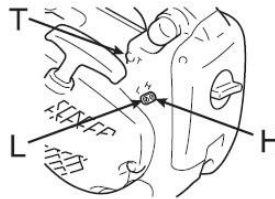

Fig. 22
- Turn the idle adjustment screw (**Fig. 22-L**) and the maximum speed adjustment screw (**Fig. 22-H**) counterclockwise to the end of the stroke.
- Turn the idler adjustment screw (**Fig. 22-T**) counterclockwise until the chain stops.
- Turn the idle adjustment screw (**Fig. 22-T**) counterclockwise by another half turn.